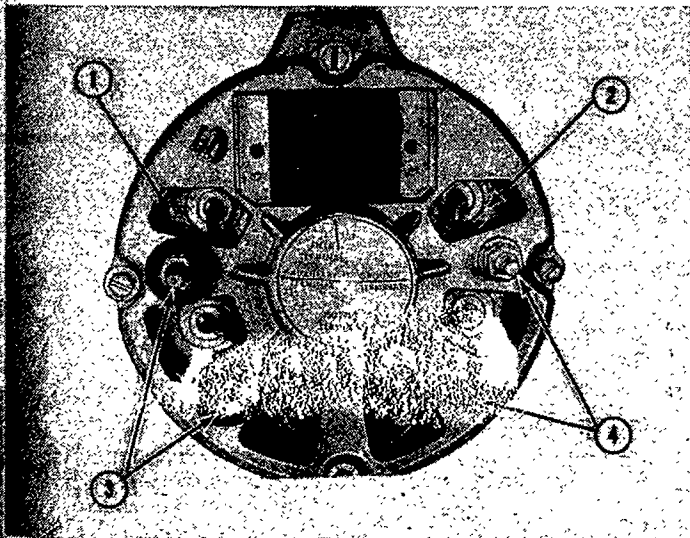

Figure 62
2. Insert the heat sink studs through the openings in the rear housing. Place the insulating washers over the studs, as shown in Figure 62, for 12 volt negative ground units. Install the locknuts as shown and tighten securely.